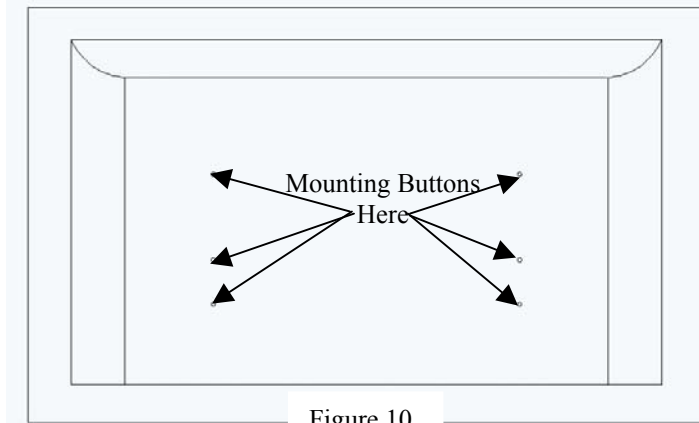

Figure 10
1. Attach six mounting buttons to plasma using six M6 x 25mm Phillips head screws provided (see Figure 10).